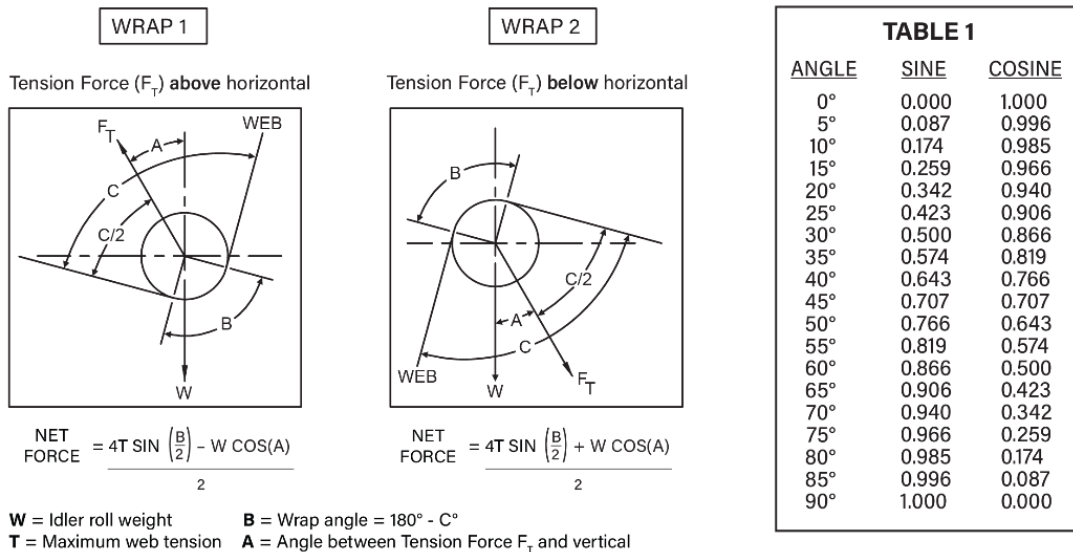

Figure 15 - LOAD RATING SELECTION FORMULAS
Refer to Figure 15. Select the appropriate wrap configuration as determined by the direction of the tension force (above, below or on horizontal). Compute the Net Force, using the formula below the wrap diagram.
2. Increase angle (A), see Figure 15.